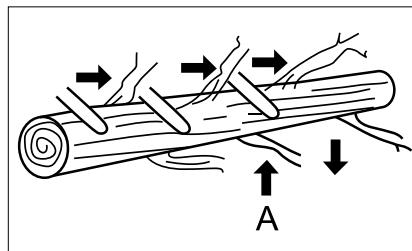

Fig. 18
Branches are cut from the fallen tree. Do not cut branches that support the trunk and keep it from rolling away (A) until you have cut the trunk (fig.18).